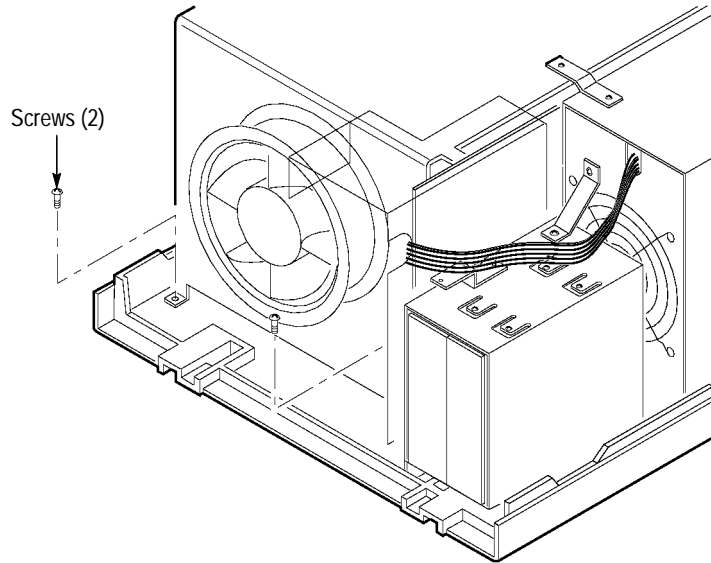

Figure 3–13: Bottom-front Screw Locations for Removing the Card Cage
9. Remove the two bottom-front screws, as shown in Figure 3–13.